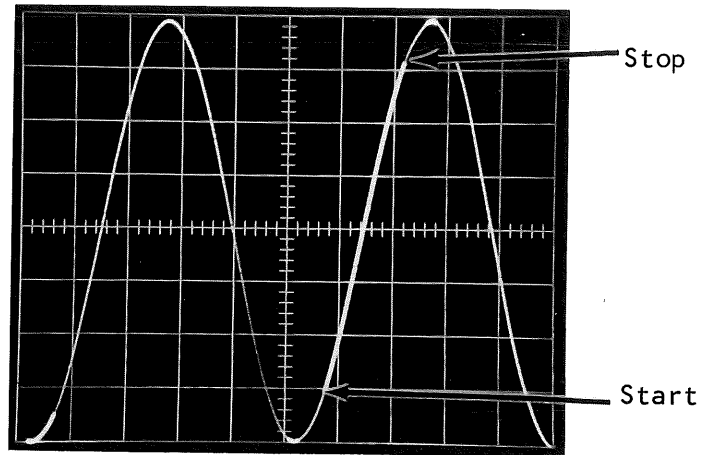

Figure 7-4
3. Set the START and STOP to SECOND + SLOPE and check for proper CRT display. See Figure 7-4.